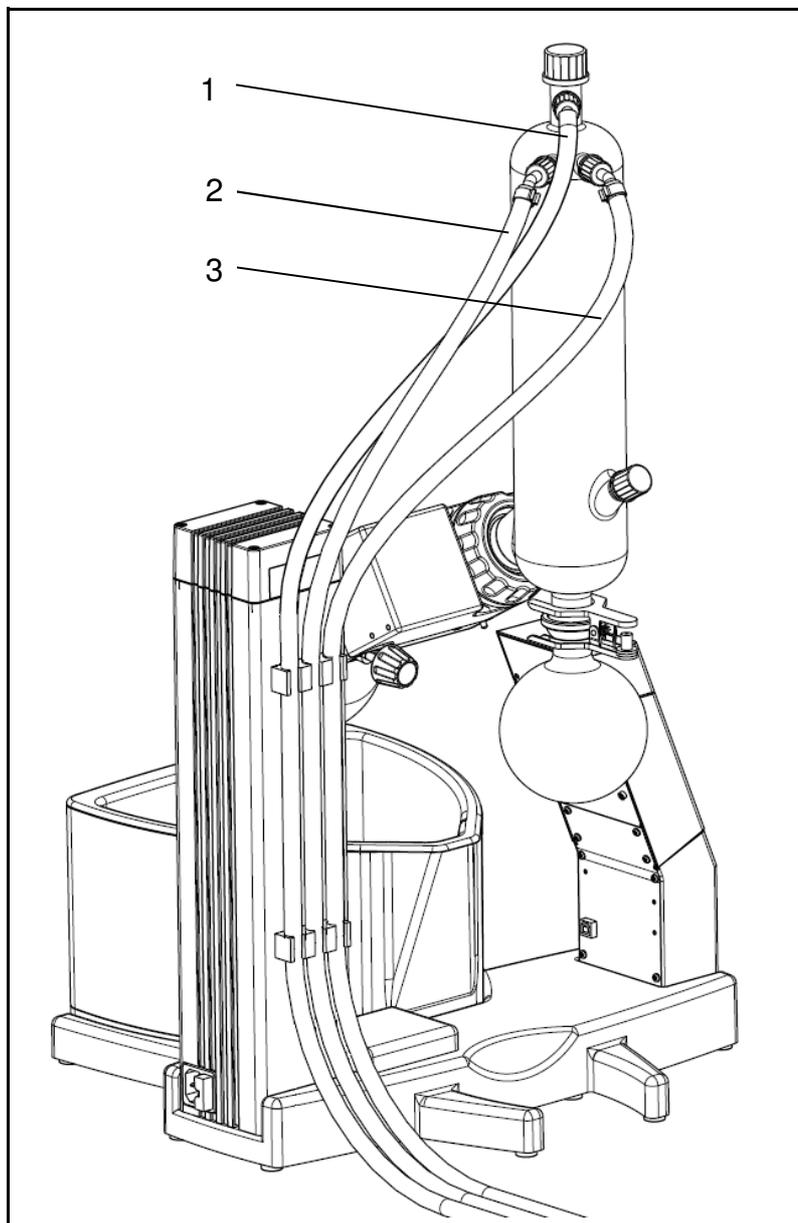

Fig. 5: Attaching lines for coolant and vacuum
4. Attach coolant hoses (Fig. 5/2 and 3) to the condenser or fill the dry ice condenser with dry ice.